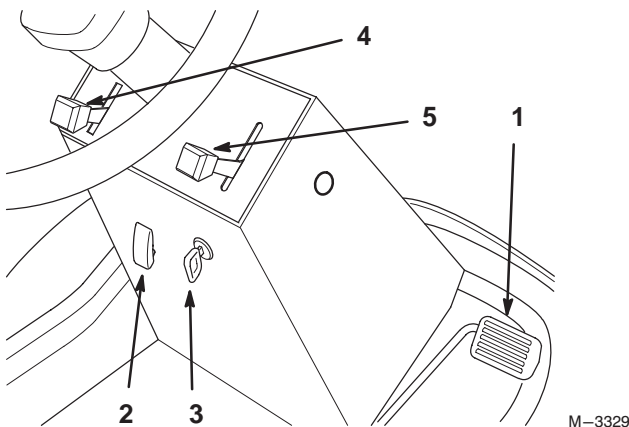

Figure 7
1. Move the throttle lever to "SLOW" (Fig. 7).
2. Turn the ignition key to "OFF" (Fig. 7).
1. Release pressure on the traction pedal to stop movement. (Fig. 7).
2. Lift the cover and move the PTO switch to the "ON" position (Fig. 7).
Closing the cover moves the PTO switch to the "OFF" position (Fig. 7).
1. Place your foot on the traction pedal (Fig. 7).
3. Slowly press on the upper pad of the traction pedal to move forward (Fig. 7).
3. Slowly press on the lower pad of the traction pedal to move rearward (Fig. 7).